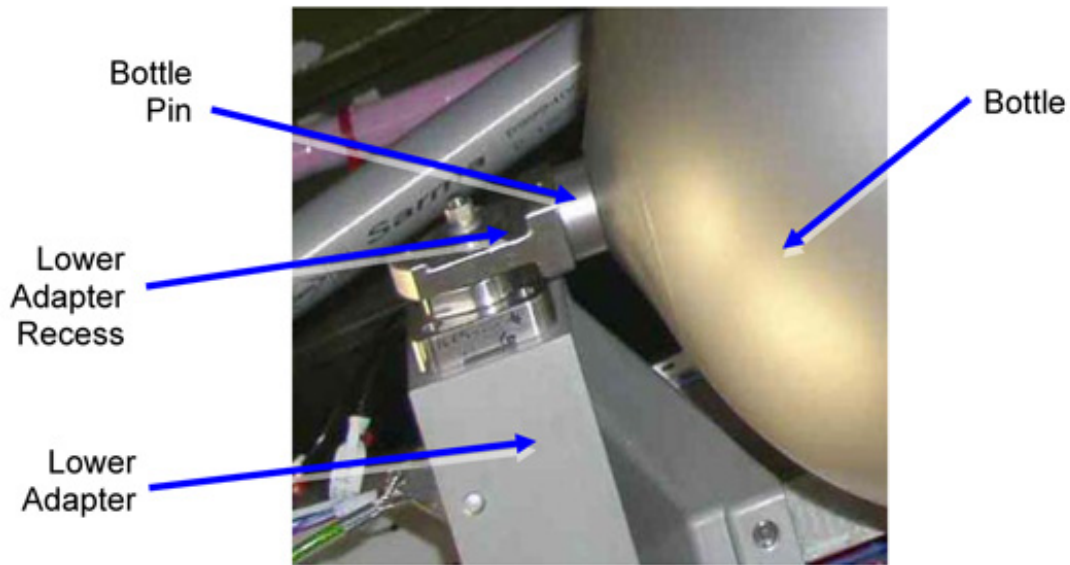

Figure 3-1 Details of Lower Adapter
- 3.1 Place PFE1(2) on lower adapter by inserting bottle pin into recess. Refer to Figure 3-1.